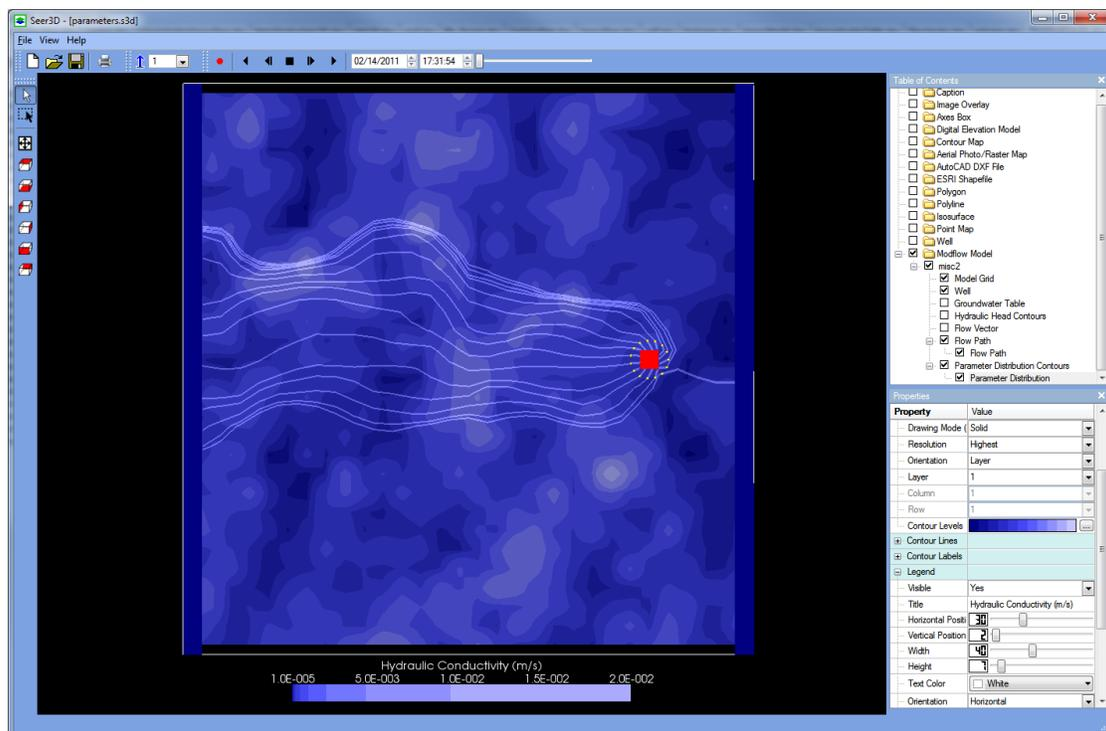

Figure 3.11. Streamlines and the distribution of hydraulic conductivity values
2. Select *Create New Object* from the popup menu, and then select a 3D ASCII Matrix file (See Section 5.3.8 for the format) from an Open File dialog box. The parameter distribution contours will be created with the default settings and a new item will be added to the *Parameter Distribution Contours* folder. Figure 3.11 shows the distribution of hydraulic conductivity values at a model layer and the streamlines that trace the area of higher hydraulic conductivity values. Note that 3D Matrix file format is supported by Processing Modflow 8 (Chiang [3]).